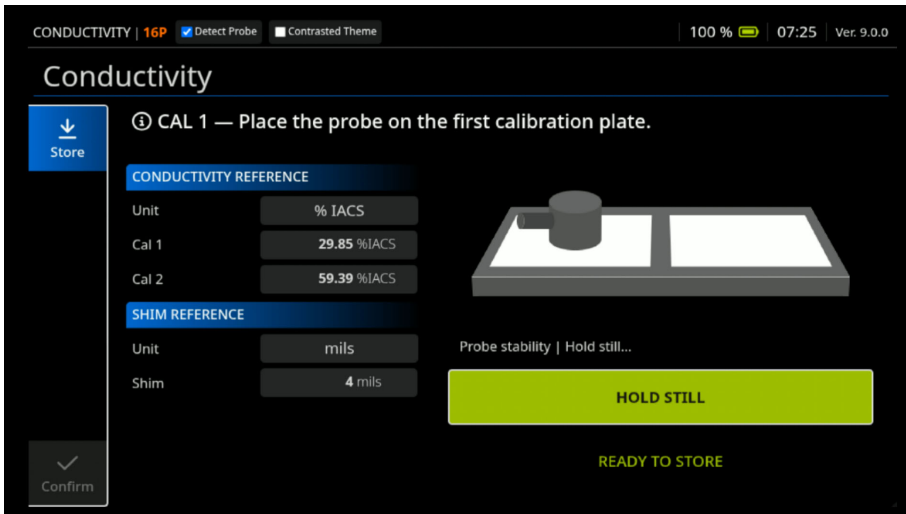

Figure 6-5 Calibrating Conductivity
5. Follow the instructions as presented on the display (See Figure 6-5 on page 210).